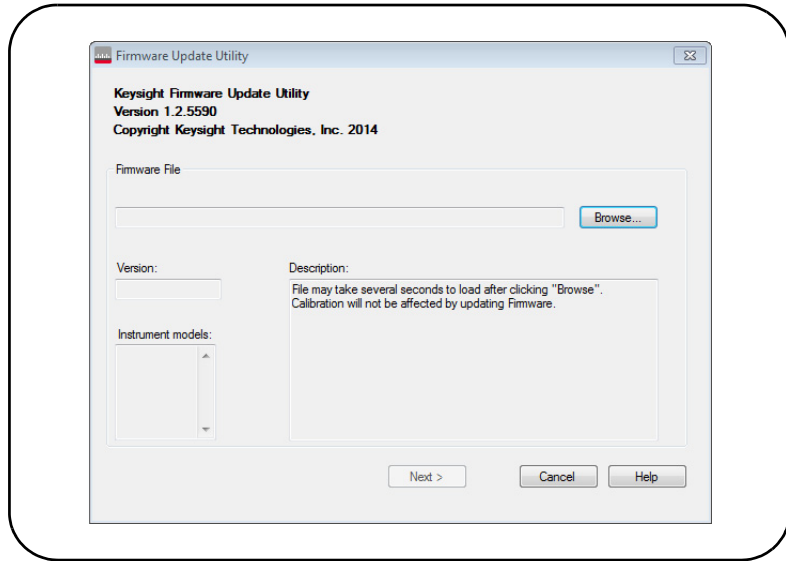

Figure 2-9 Selecting the update file path.
- 2 Press **Next** and using the **Browse** button, specify the path to the firmware file (Figure 2-9). Once specified, the instrument model number will appear in the 'Applicable Models' window along with the revision and instrument description. Select **Next**.